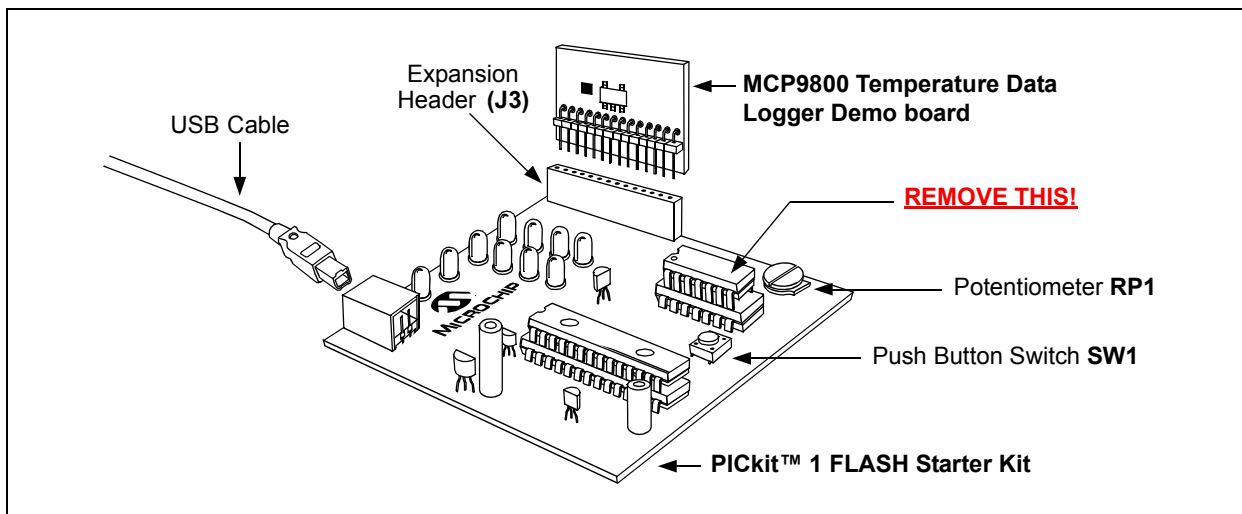

FIGURE 2-2: MCP9800 PICtail™ Daughter Board and PICKit™ 1 FLASH Starter Kit.
1. Connect the P1 header of the MCP9800 Temperature Data Logger Demo board to the J3 connector on the PICKit™ 1 Flash Starter Kit board. Refer to Figure 2-2 for proper orientation of the MCP9800 Temperature Data Logger Demo board and Figure 2-3 for a simplified board schematic.